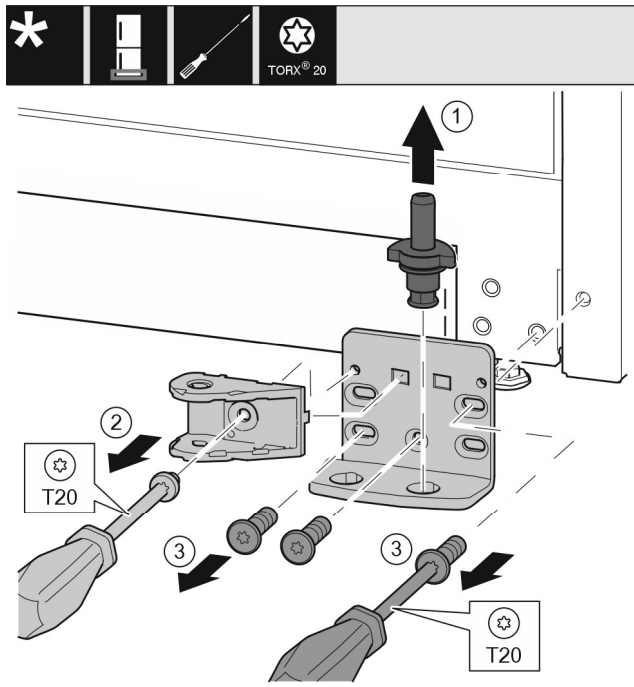

Fig. 34 \*
- ▶ Completely pull out the bearing pin Fig. 34 (1) upward.\*
- ▶ Use a screwdriver to unscrew the screw Fig. 34 (2) and remove the closing damper connection.
- ▶ Use a screwdriver to unscrew the screws Fig. 34 (3) and remove the swap bearing block.\*